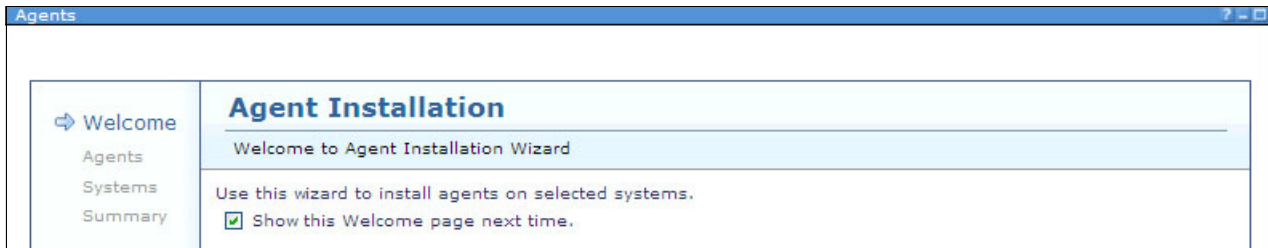

Figure 9-33 Install VMControl image repository subagent
3. A welcome window for Agent Installation opens as shown in Figure 9-33. Click **Next**.